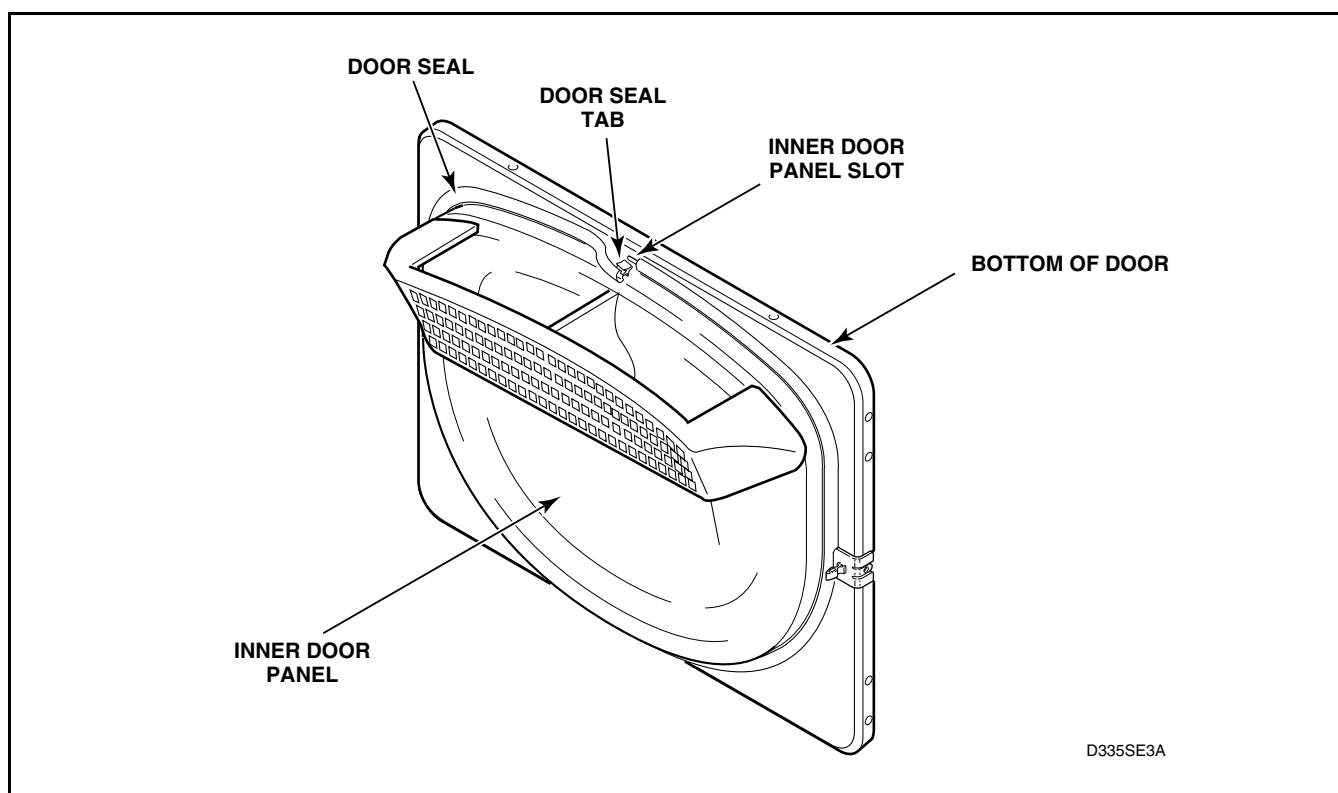

Figure 19
Refer to *Figure 19*
- Grasp either end of door seal at bottom of door and remove seal from tabs on inner door panel by gently pulling on the seal. Refer to *Figure 19*.
NOTE: When replacing seal, be sure seal is not stretched or distorted. The tab in the seal should be installed in each slot of the inner door panel, shown in *Figure 19*. The split in the seal must be at the bottom of the door. Make sure that each tab of the seal is fully engaged into the slot.